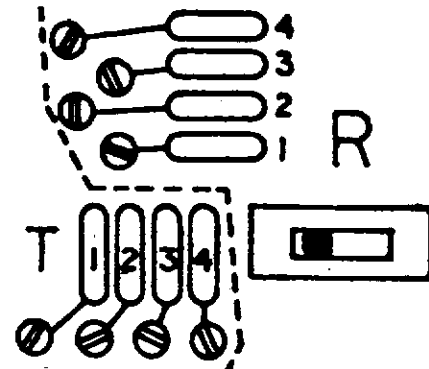

Figure 4-4. Crystal & Trimmer Locations
2. Couple frequency counter to first LO coil L109 with a "pick-up" loop. Turn unit ON, and adjust each receive crystal to its proper frequency with the appropriate crystal netting trimmer. See Figure 4-4.
1. Refer to Figure 4-4 for crystal and netting capacitor locations (T).
2. Locate mounting position for the new crystal(s). Refer to Figure 4-4 for TRANSMIT and RECEIVE crystal locations.